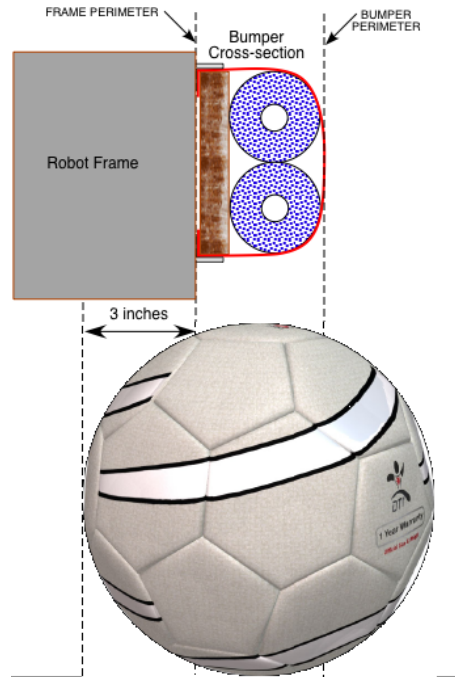

Figure 8-5
- a) the FRAME PERIMETER below the level of the BUMPER ZONE (see figure 8-5).